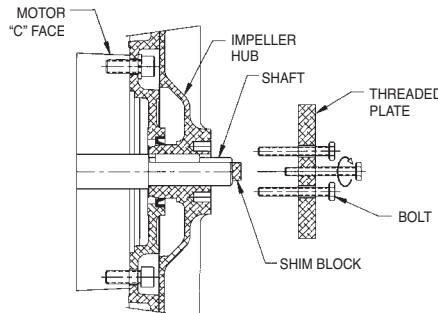

Fig. 5 Impeller Puller
- c. use a puller assembly (not furnished) as shown in Fig. 5.